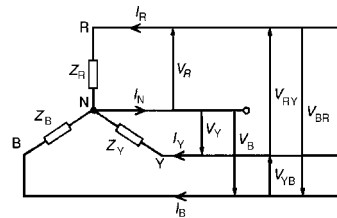

Figure 20.3
- (i) A **star-connected load** is shown in Fig. 20.3 where the three line conductors are each
- (iv) From Fig. 20.3 it can be seen that the phase currents (generally denoted by I_p) are equal to their respective line currents I_R , I_Y and I_B , i.e. for a star connection: